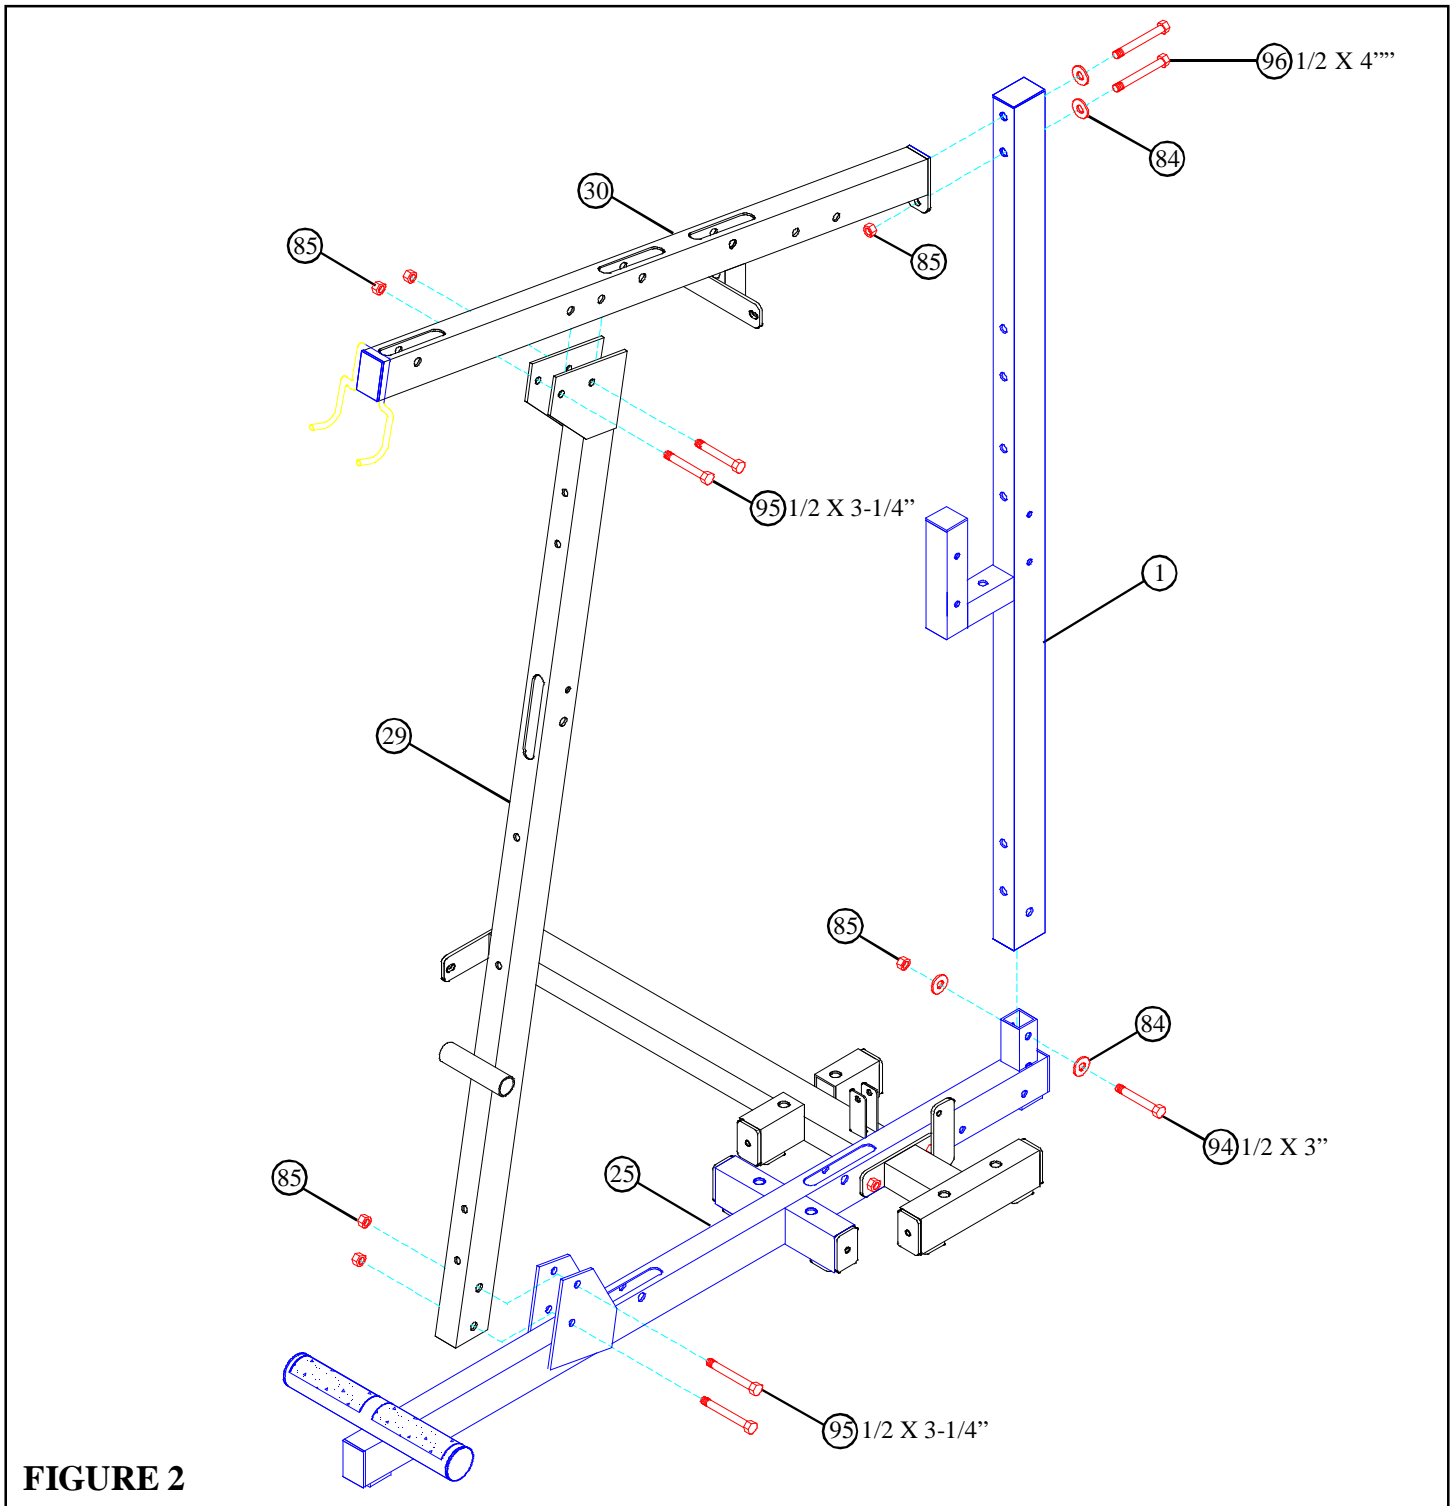

**FIGURE 1**
- **LOOSELY** assemble the LEG WEIGHT STACK BASE (23) and the PRESS WEIGHT STACK BASE (24) to the BASE (25) using two 1/2 X 3-1/4" BOLTS (95) and two 1/2" LOCK NUTS (85) as shown in FIGURE 1.
- Apply two NON-SKID STRIPS (61) to the BASE (25) as shown in FIGURE 1.